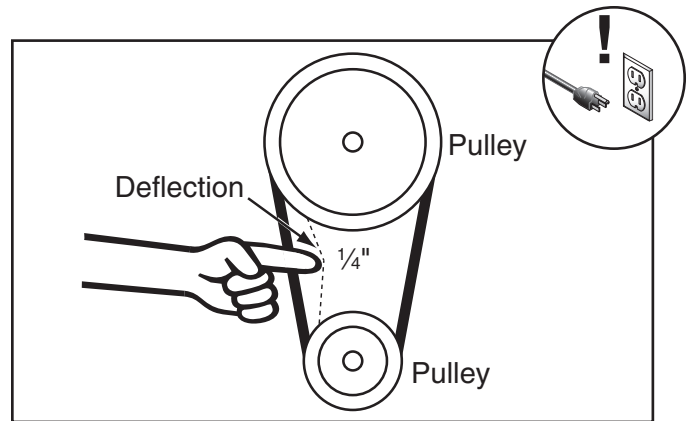

Figure 100. Correct timing-belt deflection.
5. Check the timing belt tension: It is correctly tensioned when there is approximately ¼" deflection when it is pushed with moderate pressure, as shown in **Figure 100**.